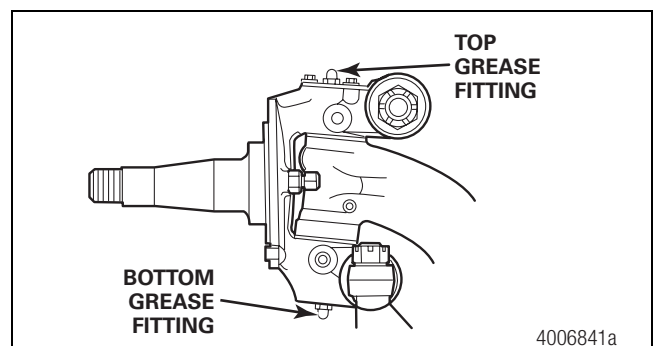

Figure 6.30
4. Lubricate the king pins through the top and bottom grease fittings. Figure 6.30.